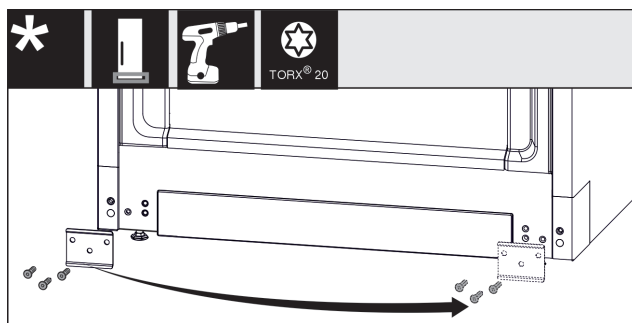

Fig. 16
- Unscrew the plate Fig. 16 (1), move it to the other side and screw it back on.